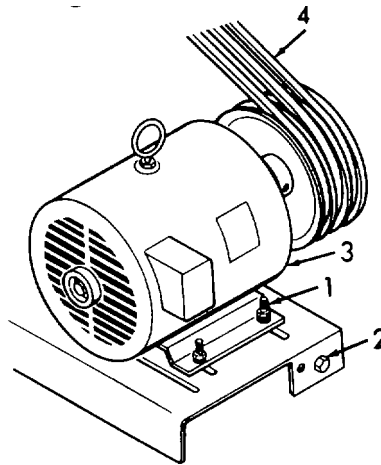

Figure 3-13. Drive Belts, Removal.
a. *Removal.* (Refer to Figure 3-13).